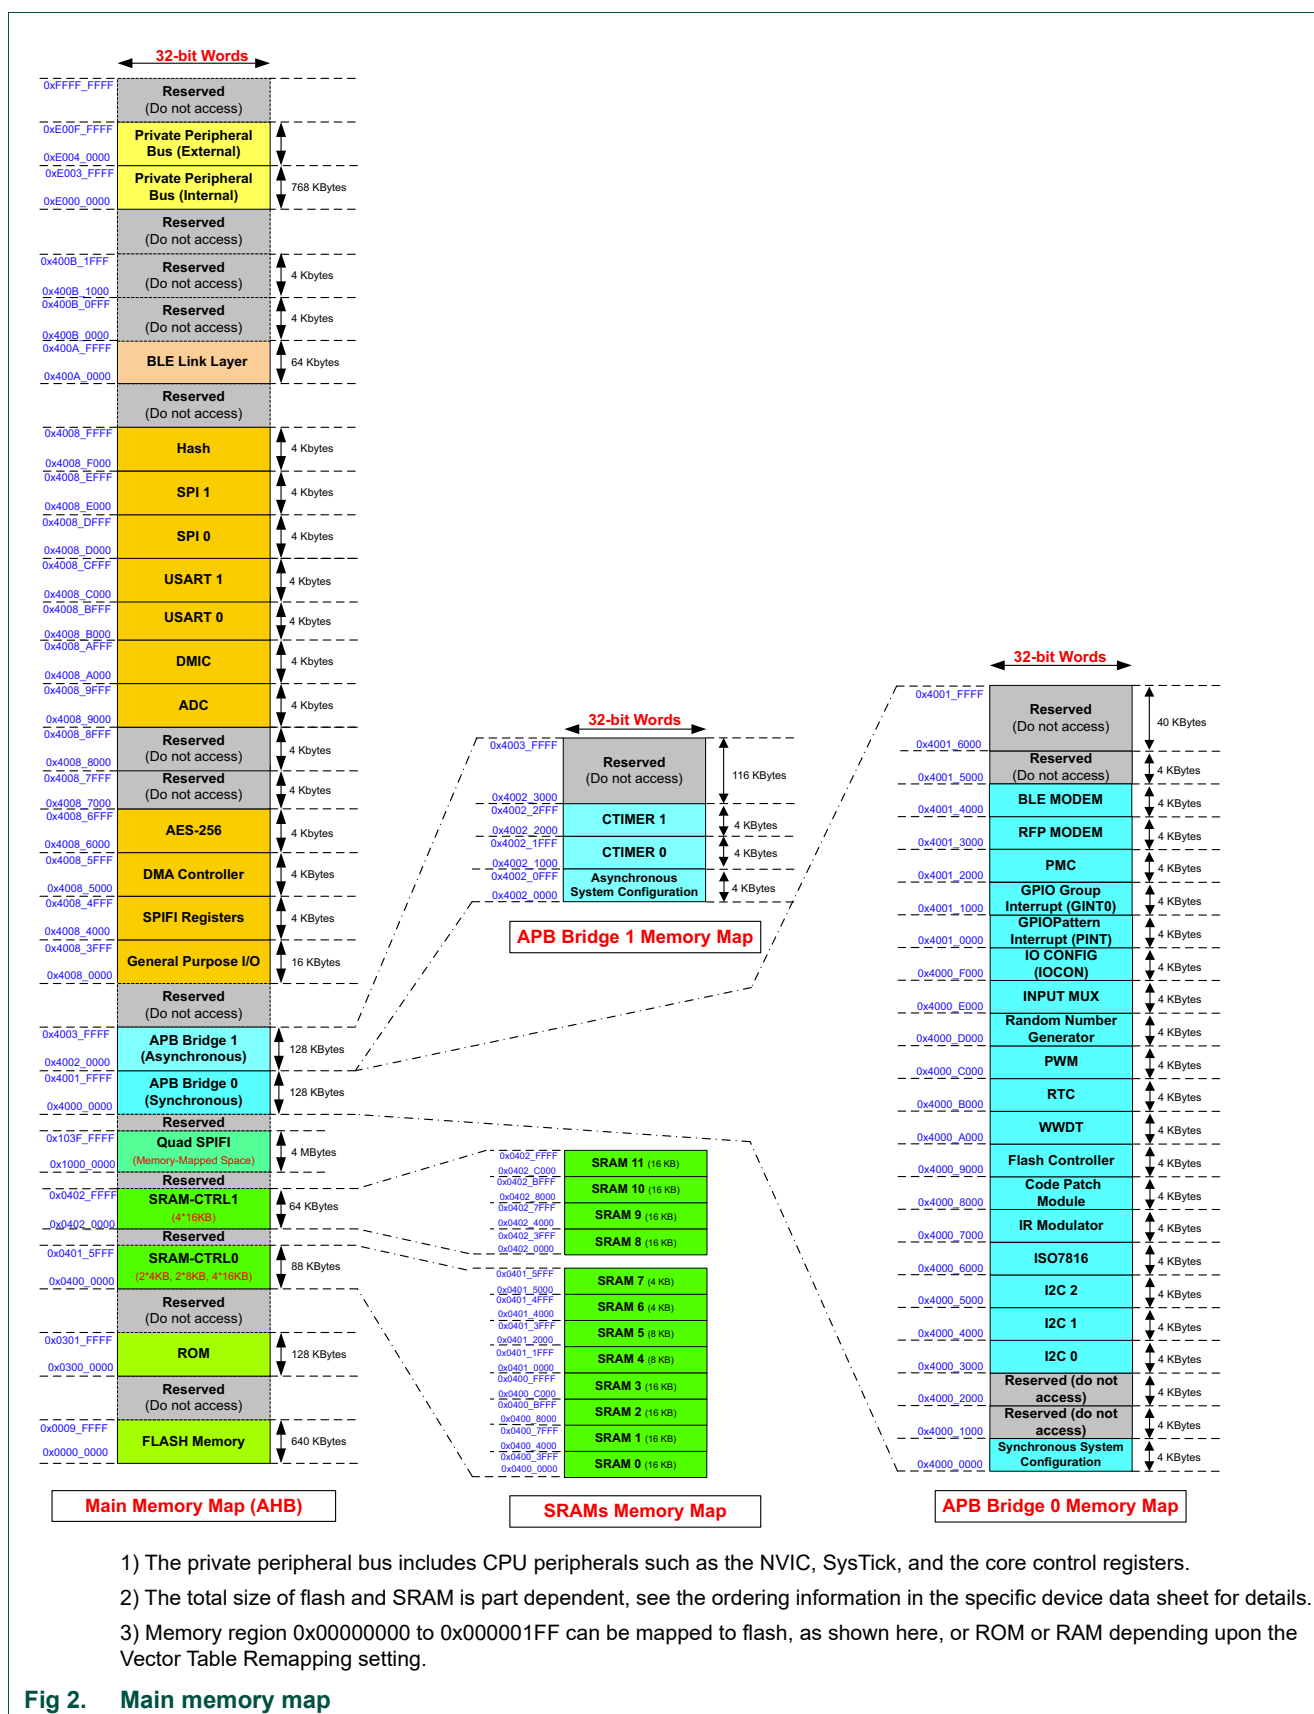

Fig 2. Main memory map
The QN9090(T)/QN9030(T) incorporates several distinct memory regions. Figure 2 shows the overall map of the entire address space from the user program viewpoint following reset.
The APB peripheral area (detailed in Figure 2) is divided into fixed 4 KB slots to simplify addressing.
The overall memory map and also details of the APB peripheral mapping are shown in Figure 2 “Main memory map”.
The QN9090(T)/QN9030(T) uses a multi-layer AHB matrix to connect the CPU buses and other bus masters to peripherals in a flexible manner that optimizes performance by allowing peripherals that are on different slave ports of the matrix to be accessed simultaneously by different bus masters. Figure 2 and shows details of the potential matrix connections.
The Cortex boot address is 0x00000000. The memory map in Figure 2 shows flash at this address. However, the first 512 bytes in the memory map are treated specially to give flexibility to the location of the vector table. This region will be referred to here as the Vector Table Region.